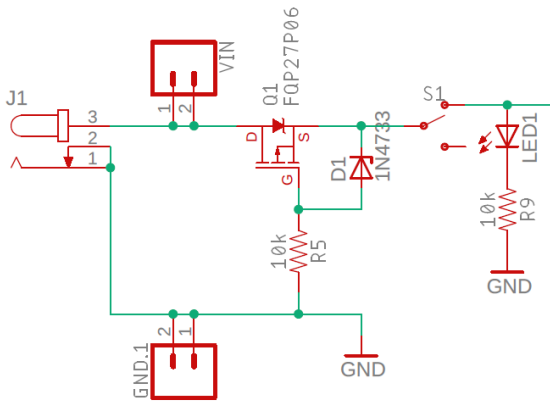
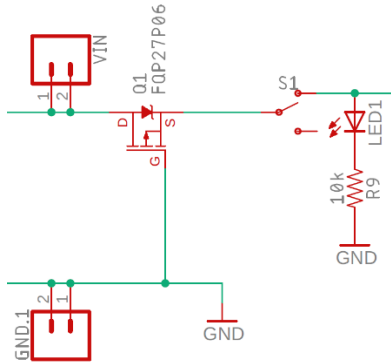

Figure 4: The reverse voltage protection circuit for the audio board.
Figure 6: A simplified version of the reverse voltage protection circuit used on the audio board
It is said that to err is human. When working with your audio board, one of the most costly errors that you could make would be to apply the 9V and GND power inputs backwards, called reverse voltage. On an unprotected circuit, prolonged application of reverse voltage will permanently damage components like op amps, BJTs, and MOSFETs. To prevent this tragedy, your audio board comes equipped with the reverse voltage protection circuit shown in Figure 4.
To understand the function of this circuit, it is helpful to eliminate R2 and D1 in Figure 4 and connect the gate of the PMOS transistor directly to GND as shown in Figure 6.
6. What voltage will appear between the Gate and Source of the PMOS transistor in Figure 4?